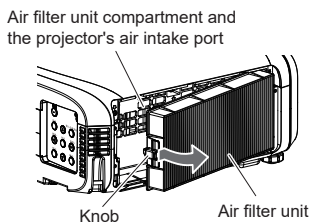

Fig.2
- Pull out the air filter unit from the tabs of the projector while slightly pressing the knob at the center of the frame at the connecting terminal side (rear side) inward as shown by the arrow, and remove the air filter unit. (Fig. 2)
3) Remove the air filter unit. (Fig. 2)